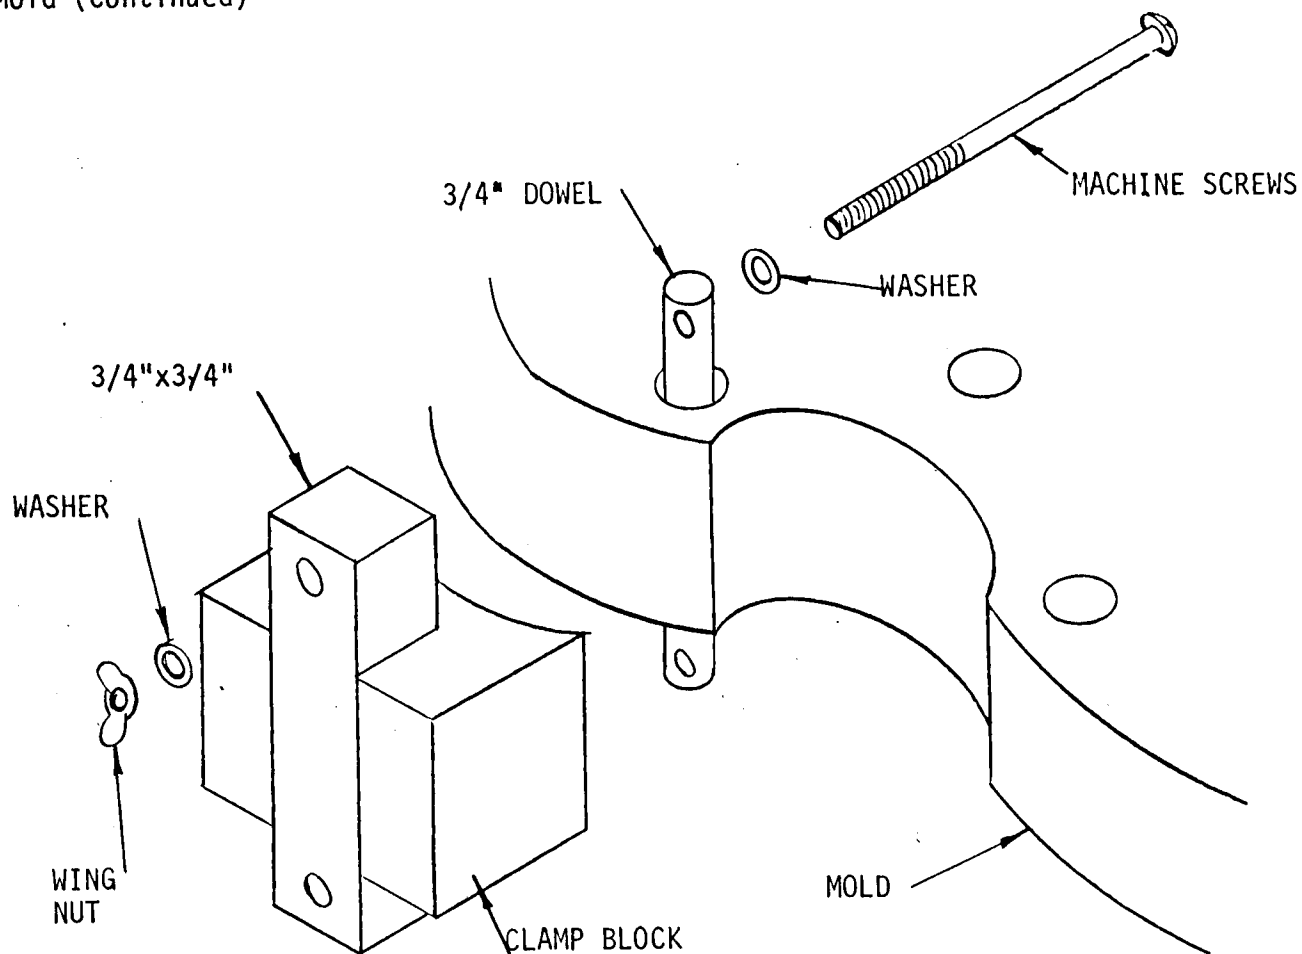

Figure 4-2. Clamp Arrangement
11. Prepare a clamping arrangement for each clamp block as suggested in Figure 4-2.